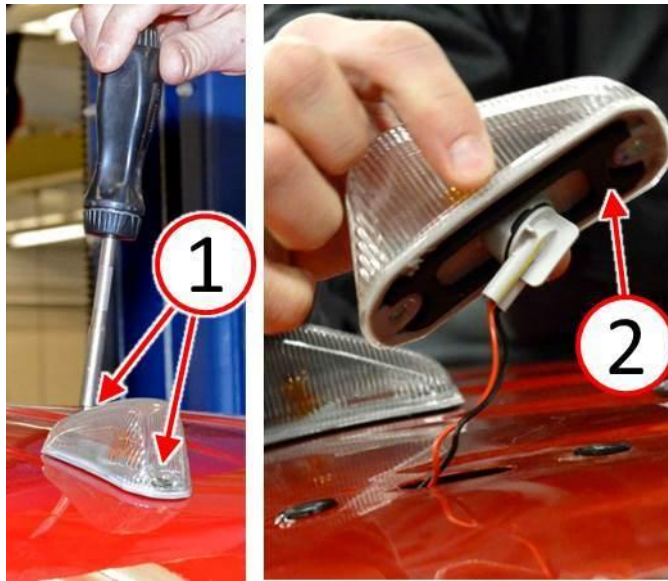

Fig. 14 Remove Roof Clearance Lamp
8. Remove the screws (1) from the roof clearance lamp (Fig. 14).
9. Remove the roof clearance lamp (2) from the vehicle and discard the lamp (Fig. 14).